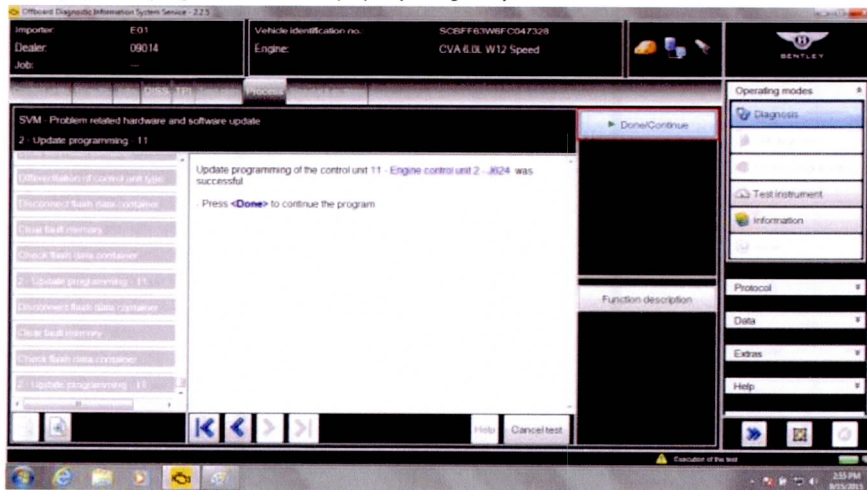

Figure 8
17. Once Done/Continue is selected at the successful programming screen (see Figure 8) then the next module requiring software change will be presented - Engine control unit 2 - J624
21. Once Done/Continue is selected at the successful programming screen (see Figure 8) then the next module requiring software change will be presented - Automatic gearbox control unit - J217